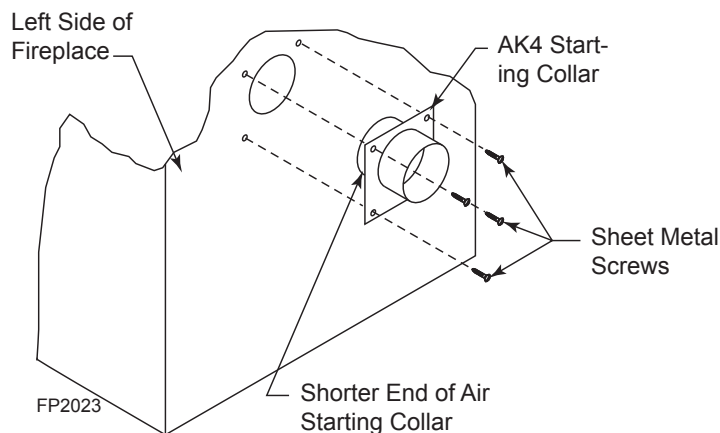

Figure 14
2. Place starting collar (4") into hole on left side of fireplace. Fasten starting collar in place with four (4) sheet metal screws provided. *Figure 14*